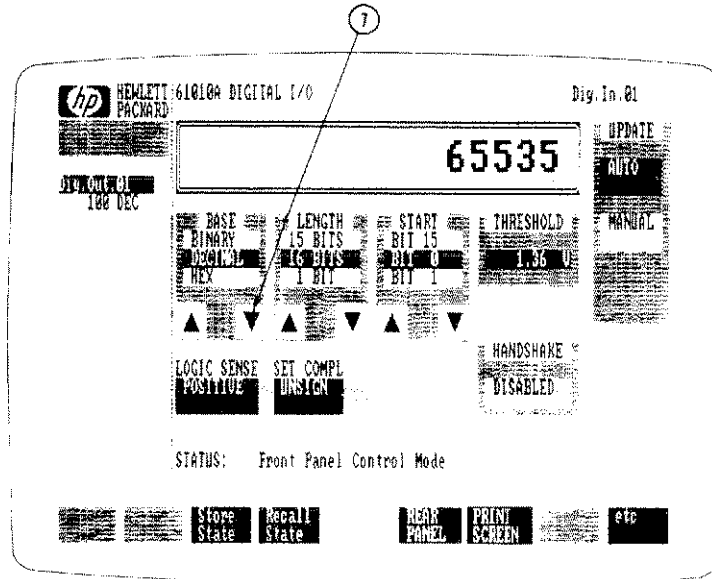

Figure 2-8. Change the Base to Binary
Step 7 - The input display changed to 65535, which is the unsigned representation for all 16 input bits being high. Now point to and select the ▼ arrow to change the base to BINARY (see Figure 2-8). Each time you point to and select the ▼ arrow, the top choice in the list rolls down into the center position. The choice at the bottom of the list rolls around until it appears at the top of the list again. (The choice that is currently active stays bright as it rolls around in the list).